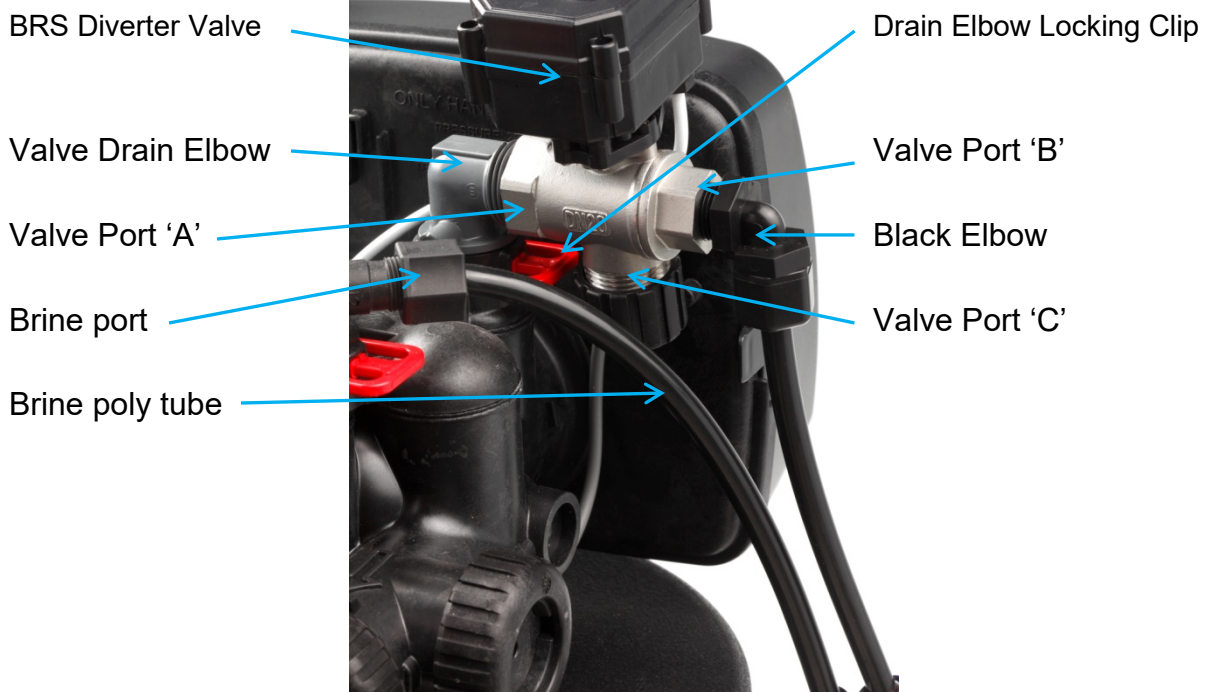

Figure 1.
2. Follow the softener drain line to locate the drain elbow assembly on the softener control valve. Disconnect the drain line from the drain elbow by unscrewing the compression fitting, pull out the red locking clip, and remove the drain line elbow from the softener control valve. See Figure 1.
3. By holding the BRS diverter valve with the black electrical box facing up, note the $\frac{3}{4}$ " male NPT facing horizontally (port A), a $\frac{3}{8}$ " female NPT outlet also facing horizontally (port B) and a $\frac{3}{4}$ " female NPT (port C) facing downwards. See Figure 1. Wrap the male $\frac{3}{4}$ " NPT thread on the drain elbow five to six times with white Teflon tape, then screw the drain elbow to the diverter valve port 'A'. Make sure after you tighten the drain elbow, port 'C' is facing downwards. **Do not over-tighten any threaded joints.**
10. Locate the brine poly tube (See Figure 1). Use a tube cutter or Exacto-style knife to cut the brine tubing 5 to 10 inches long from the softener head. Then cut the black poly tubing in step 7 to the same length as the brine tubing. Insert both tubing to the two-way divider.